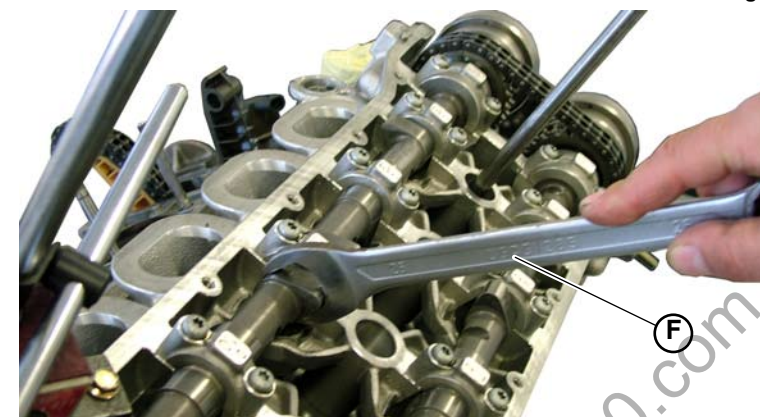

Fig.3
6. Turn the camshaft seat using a 26 mm wrench (**F-Fig.3**) until the digital dial gauge indicates 1 mm.